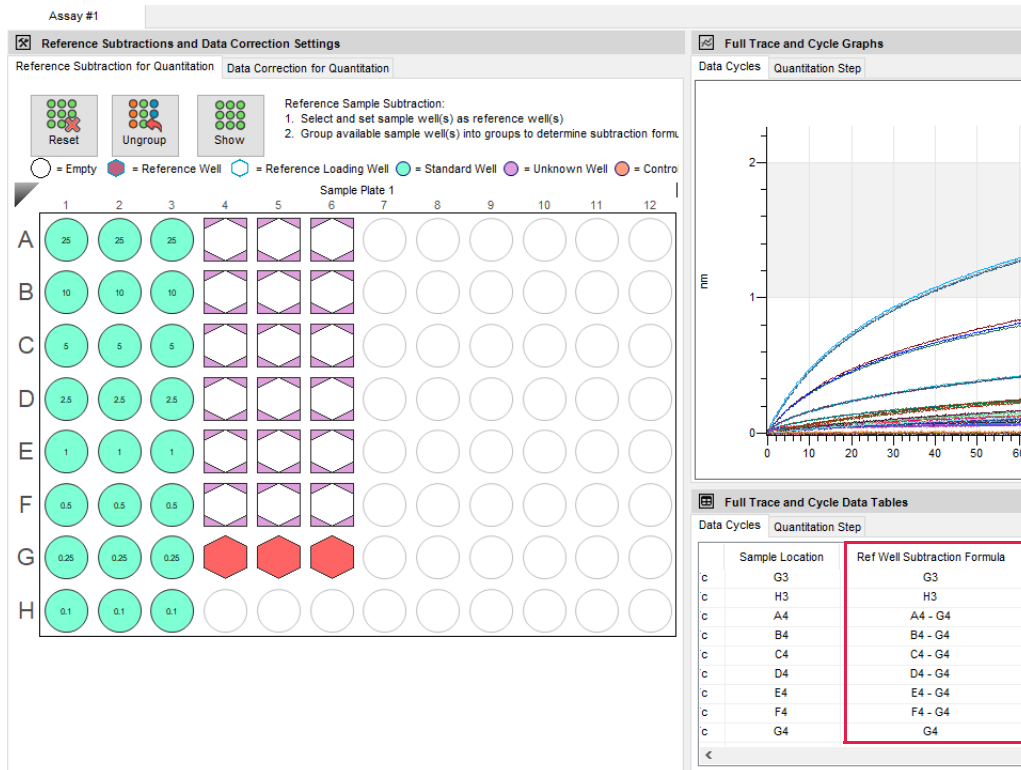

Figure 9-22: Subtract Reference In Column Plate View and Data Cycles Table Subtraction Formula
- **In Column** - If a column includes both non-reference and reference wells, the software computes the average reference curve for the column and subtracts this curve from the non-reference wells in the same column (Figure 9-22).